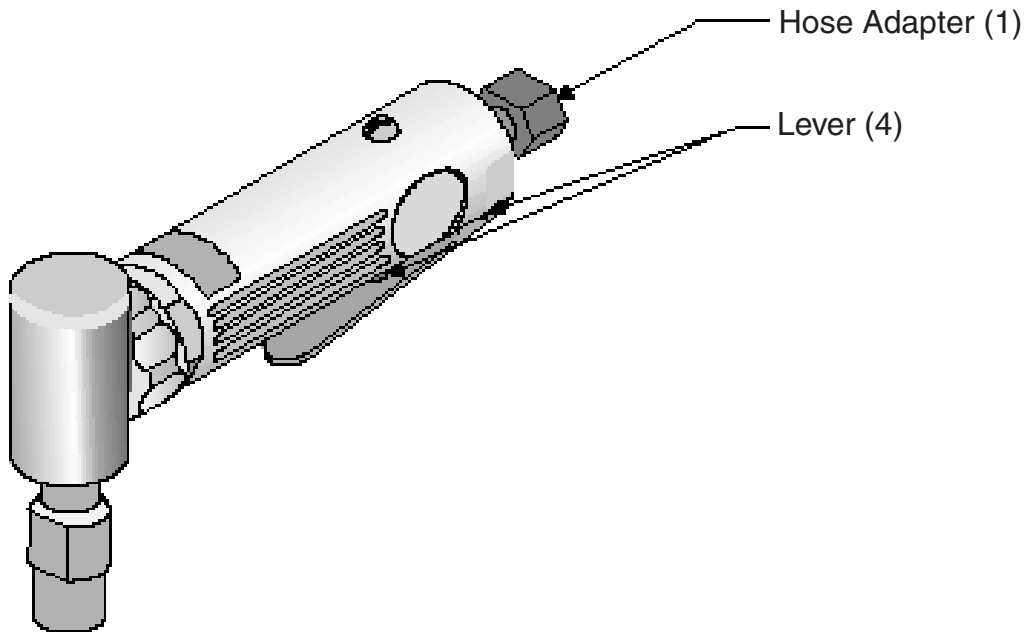

Figure 6 — Lubrication Points
2. Apply a few drops of **PNEUMATIC TOOL OIL** through the HOSE ADAPTER (1) before each use, or every hour if used continuously.
3. Apply a few drops of oil to the LEVER (4) as shown in Figure 6. Work the LEVER a few times to lubricate.